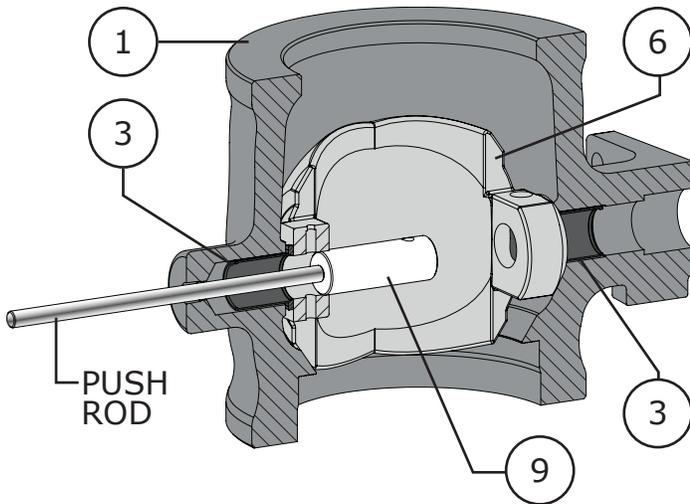

Figure 20 3 to 12 Inch Follower Shaft Removal
- 8 Support the ball (Key 6) and push the follower shaft (Key 9) towards the center of the ball. Refer to Figure 20.